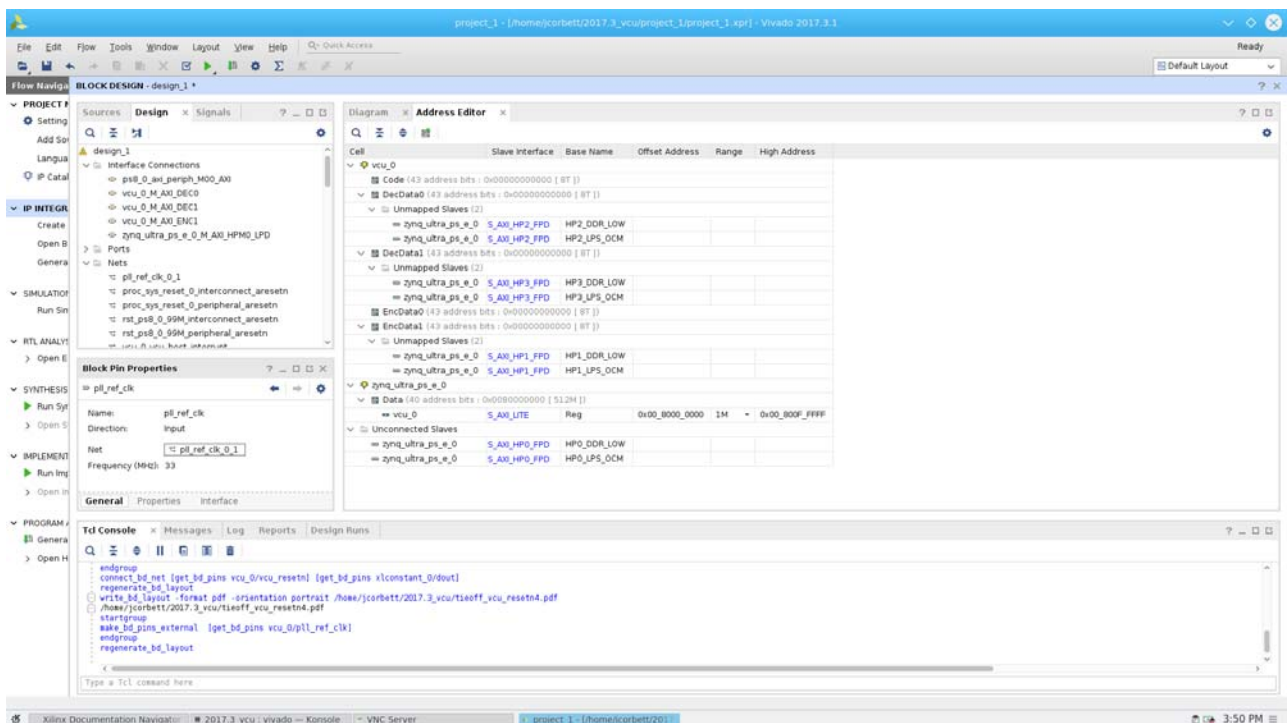

Figure 10-14: Address Editor
21. In the **Address Editor** tab, expand EncData address segment and auto assign the addresses. Figure 10-14 shows an example address map.